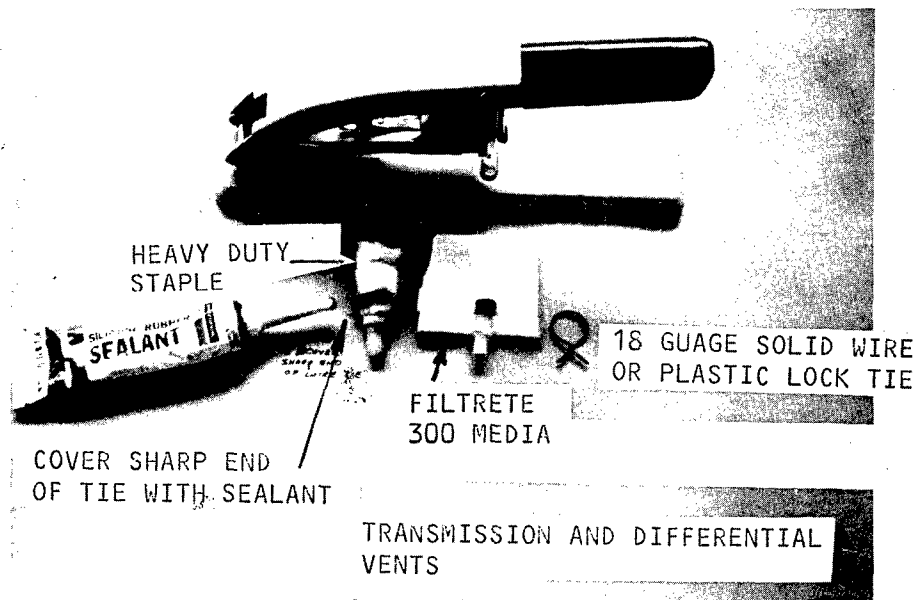

Figure 6
(2) Transmission Vents: GM and Ford transmission vents are generally located on the exterior housing and are similar to axle vents. The above instructions for axle vents apply, including the recommendation to vent through a hose to the vehicle trunk. A simple vent wrap may be acceptable if located in a protected area, Fig 6. Chrysler Corporation transmissions are vented within the bell housing therefore, filtering of the vent is not practical.